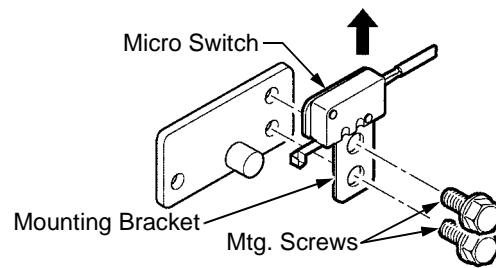

Figure 45
- Loosen the screws securing the micro switch mounting bracket. Refer to Figure 45.